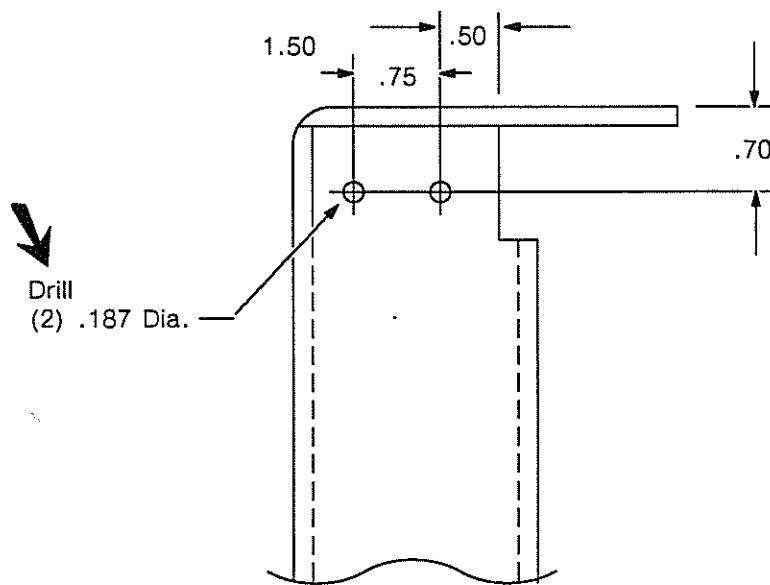

Fig. 2 - MODEL 140E VACUUM FAN SUPPORT
2. For the 140E, drill (2) 3/16" dia. holes in the vacuum fan support as shown in Figs. 2 & 4.